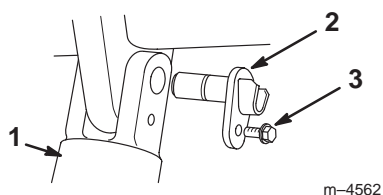

Figure 4
2. Remove the bolt securing the upper tilt cylinder pin (Fig. 4).